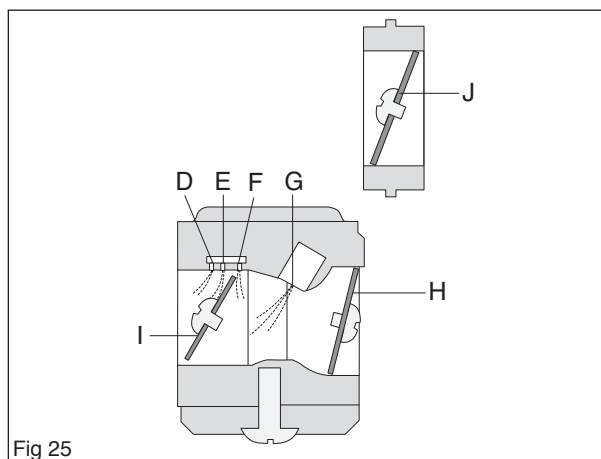

Fig 25
In the cold start mode (see figure) the choke valve (H) is fully closed. This increases the vacuum in the carburettor so that fuel is sucked more easily from all the diffuser jets (D, E and F). The throttle valve (I) is partly open. Extra air inlet (J) is closed. (see figure 25)